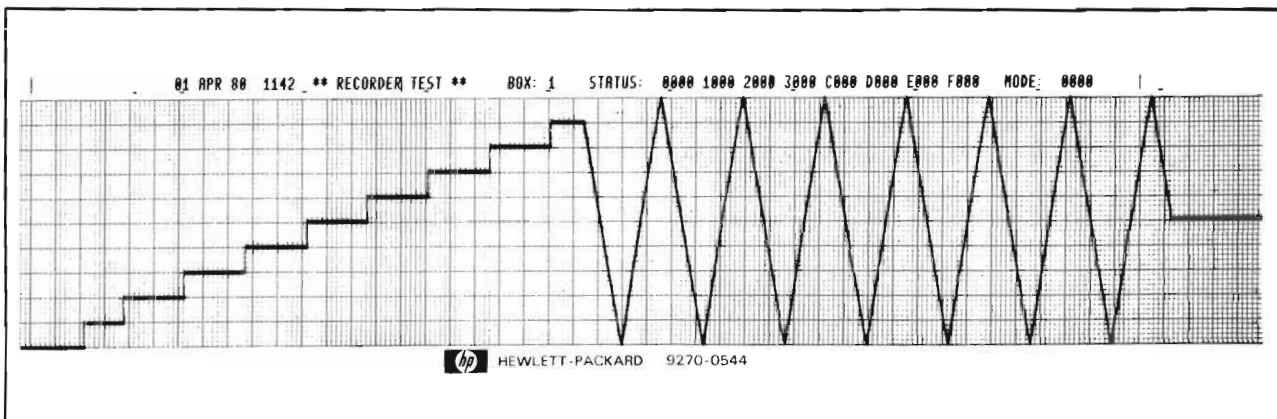

Figure 3-9. Recorder Diagnostic Test Pattern
- a. Press the SELF-TEST button at the 78510 Display Unit. The 78510 will go into self-test mode and briefly display its diagnostic test patterns, then halt with a standard monitor mode display. This monitor mode display is divided into equal segments, one per bedside. Also, verify that the central station recorder outputs a diagnostic test pattern with STATUS codes indicating no error conditions as shown in Figure 3-9.
- b. Verify that two error messages (ERROR 2A, 3A) ARE NOT PRESENT at the lower left corner of the 78510 segmented operating mode display. The absence of these error messages indicates (1) the Link PC Boards in the computer and 78511 are present, and (2) the communications interface cabling is interconnected.